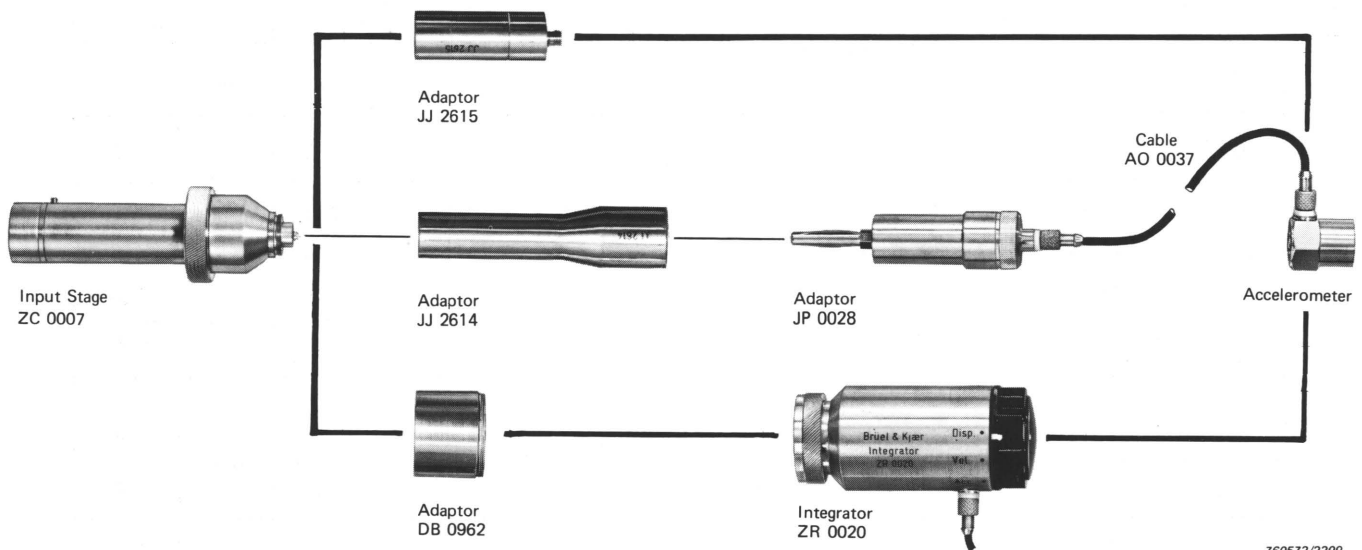

Fig.3.3. Connection of accelerometer
The Sound Level Meter Type 2209 may also be used to measure vibration levels by using one of the adaptors or the Integrator ZR 0020, shown in Fig.3.3. Full details of the ZR 0020 may be found on its Product Data Sheet. Using the adaptors, acceleration only can be measured; if the Integrator is used, acceleration, velocity, and displacement are all available. With the METER SCALE turned to its "Vibration Meter" side, and the correct ATTENUATOR SCALE inserted, acceleration (and velocity and displacement if the ZR 0020 is used) may be read directly from the instrument in vibration units (ms^{-2} , ms^{-1} , m, in metric units or g, in s^{-1} , in, in Imperial units). This is described in sections 3.5.2, 3.5.3, and 3.6.2.
4. Mount the accelerometer on the 4291 (see the 4291 Instruction Manual), and connect it to the 2209 using one of the methods shown in Fig.3.3. If an Integrator is used, set it to the required position ("Acc.", "Vel.", or "Disp.").
4. Connect the accelerometer to the 2209 using one of the methods shown in Fig.3.3. If an Integrator is used, set it to the required position ("Acc.", "Vel.", or "Disp.").